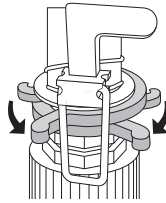

Fig. 7
- ◆ Decrease the distance between the two limiter clips ④ to decrease the dispersion of the water jet (see Fig. 7).